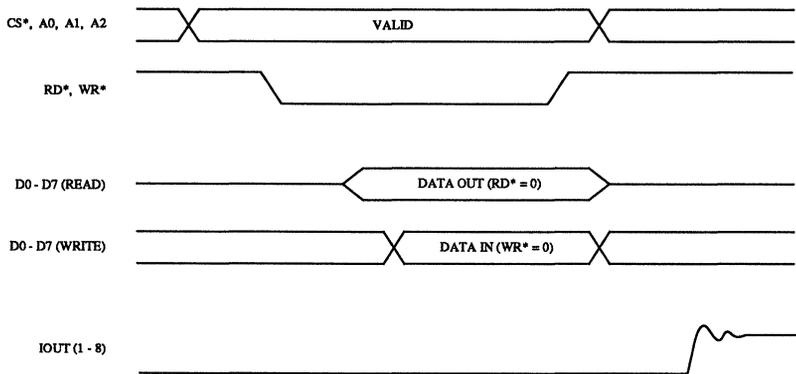

Figure 1. Input/Output Timing.
The Bt110 supports a conventional MPU bus interface through the use of the CS\*, RD\*, WR\*, D0 - D7, and A0 - A2 pins. A0 - A2 specify which one of the eight internal data latches the MPU is accessing. These data latches may be written to or read by the MPU at any time. The input/output timing is illustrated in Figure 1.
RD*	<p>Read control input (TTL compatible). To enable data to be read from the device, both CS* and RD* must be a logical zero. See Figure 1.</p>
**WR\*** Write control input (TTL compatible). To enable data to be written to the device, both CS\* and WR\* must be a logical zero. Data is internally latched on the rising edge of WR\* or CS\*, whichever occurs first. See Figure 1.